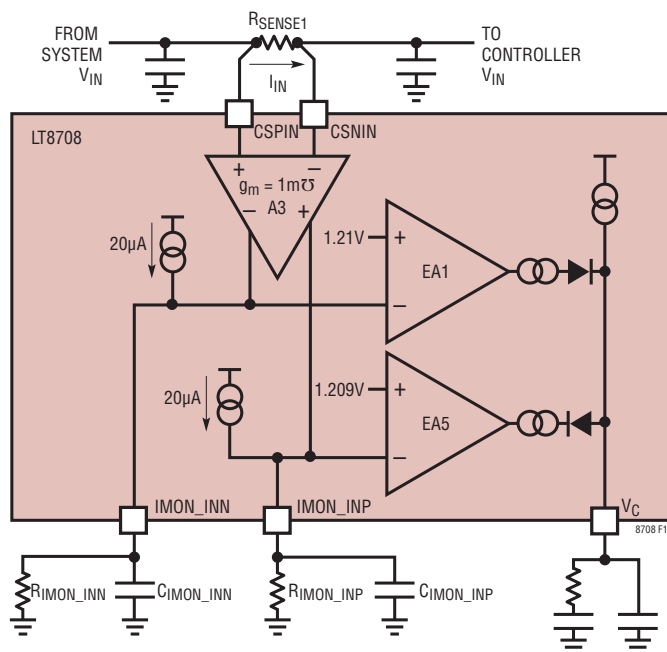
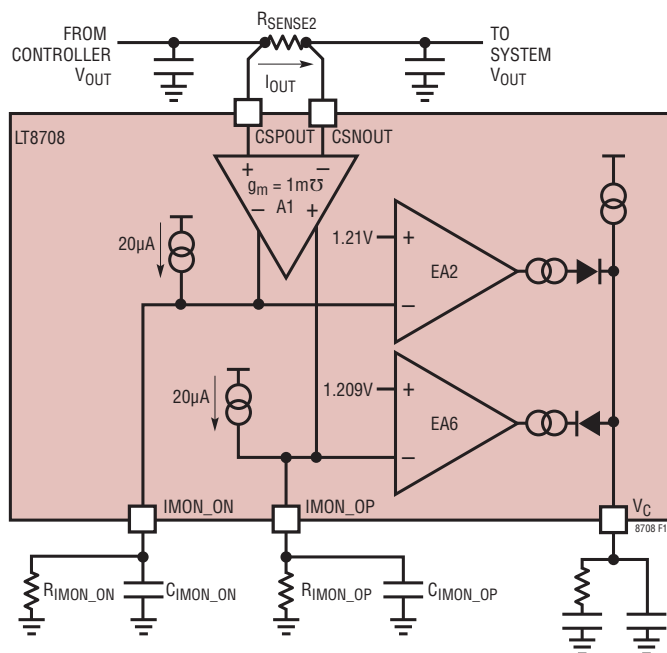

Figure 15.  $I_{IN}$  Current Monitor and Limit
Figure 16.  $I_{OUT}$  Current Monitor and Limit
The LT8708 has independent  $I_{IN}$  and  $I_{OUT}$  current monitors that can monitor and limit the respective currents in both positive and negative directions. Figure 15 and Figure 16 illustrate the operation of the current monitor circuits.
The remaining discussion refers to the  $I_{IN}$  current monitor circuit of Figure 15. All discussion and equations are also applicable to the  $I_{OUT}$  current monitor circuit, substituting pin and device names as appropriate.
**Current Monitoring:** The  $IMON\_INP$  and  $IMON\_INN$  pins can be used to monitor  $I_{IN}$  in the forward and reverse directions, respectively. When configured as shown in Figure 15, the  $IMON\_INP$  and  $IMON\_INN$  voltages are proportional to  $I_{IN}$ .  $V_{IMON\_INP}$  is proportional to the positive  $I_{IN}$  current, increasing as  $I_{IN}$  becomes more positive.  $V_{IMON\_INN}$  is proportional to the negative  $I_{IN}$  current, increasing as  $I_{IN}$  becomes more negative.
**Current Limiting:** As shown in Figure 15,  $\text{IMON\_INP}$  voltage that exceeds  $1.209\text{V}$  (typical) causes  $V_{\text{C}}$  to reduce, thus limiting the forward  $I_{\text{IN}}$  and inductor currents.  $\text{IMON\_INN}$  voltage that exceeds  $1.21\text{V}$  (typical) causes  $V_{\text{C}}$  to increase, thus limiting the reverse  $I_{\text{IN}}$  and inductor currents (see the Error Amplifiers section).
Current sense filter(s) should be connected as shown in Figure 16. Note that resistance in series with CSNIN and CSNOUT is not recommended. As described in the Topside MOSFET Driver Supply (CB1, DB1, CB2, DB2) section, the CSNIN and CSNOUT pins are also connected to the Boost Cap Charge Control block (also see Figure 1) and can draw current under certain conditions. In addition, the same CSNIN and CSNOUT current sense pins can draw bias current under normal operating conditions, while CSPIN and CSPOUT draw zero (typical) bias current. A time constant lower than  $10\mu s$  is recommended for the filter(s).